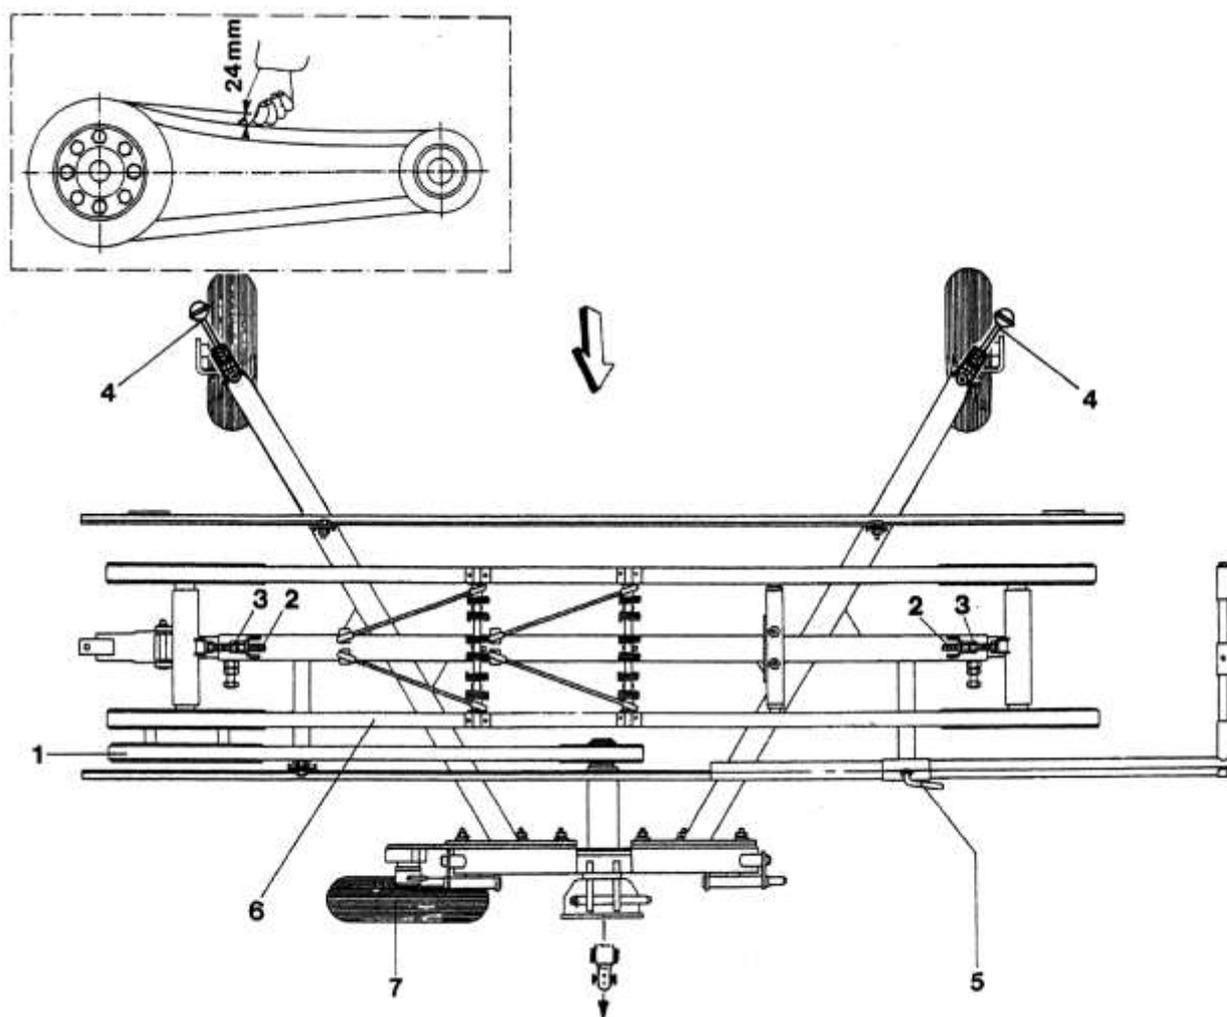
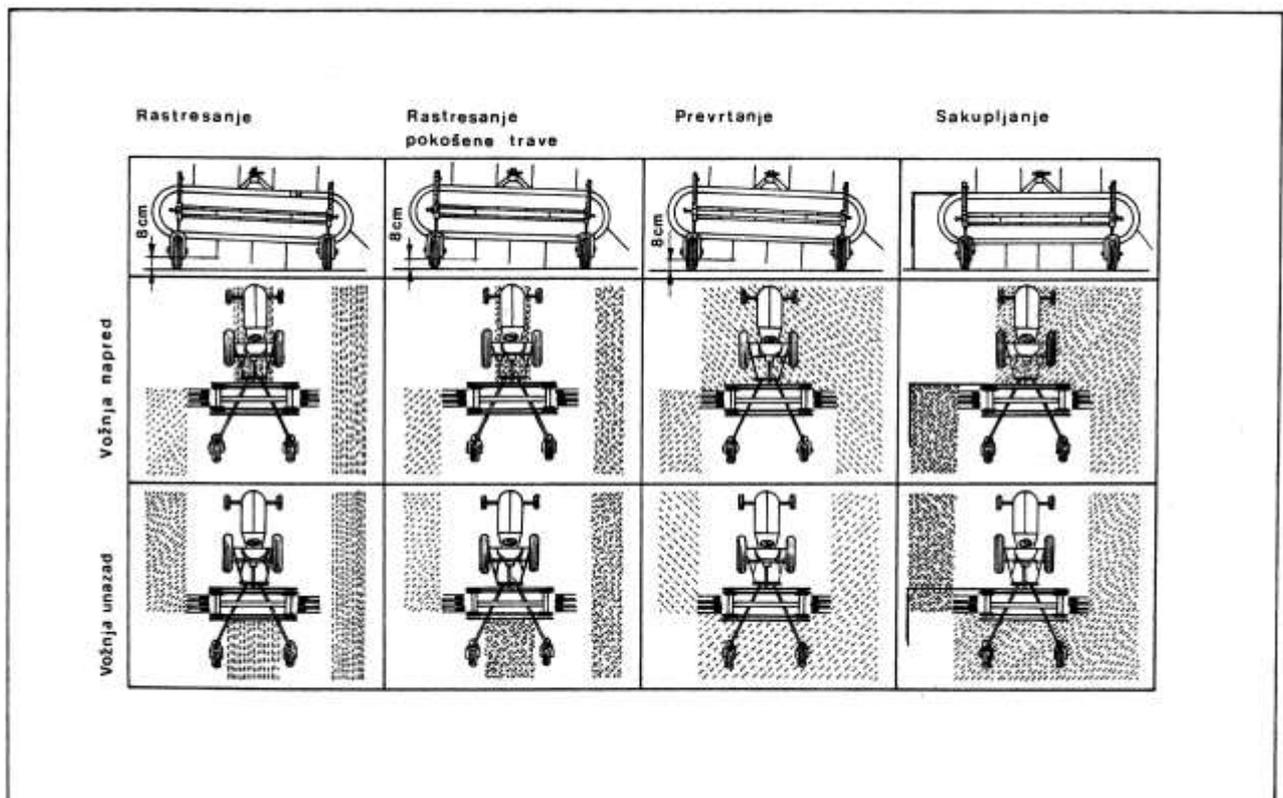

Figure 2 Belt hay rake - tightening belts
Figure 5. working height regulation
Prior to initiation of work, one needs to check the tension of the drive belt (fig. 2 pos. 1), which should have a deflection of 24 mm when a force of 100 N (10daN) is applied. Belts bearing the working elements should have a deflection of 40 mm when applying force of 150 N (15 daN).
First, setup the tension of the drive belt (Fig. 2, Pos. 1) through a screw with a counter-nut, on the right side of the belt rake (Fig. 2, Pos. 2). When deflection of the belt is 24 mm, use counter-nut to secure the screw against unscrewing (Fig. 2, Pos. 3).
Setting-up of the belts (Fig. 2, Pos. 6) bearing the working elements at 40 mm of deflection is performed by a screw in a similar manner as the previous setting-up, by means of screw on the left side (Fig. 2, Pos. 2 and 3).
When it comes to the collecting of hay, the height of the collectors is set up by operating the lever on a wheel support (Fig. 2, Pos. 4). This is set up so that both wheels are at the same height. When working on collection of hay one should set up the belt on the left side using the handle (Fig. 2, Pos. 5). This set-up is shown in Figure 5.
For raking, spreading and turning of the mowed grass, the left wheel must be adjusted with the lever on the wheel support so that the collecting element on the right side of the belt rake viewed in the driving direction is at a height of about 8 cm. For these working operations it is necessary to remove the belt, as schematically shown in Figure 5.
Before you start work with the belt hay rake, adjust the belt rake to the height required by the type of work (Fig. 5). The easiest way to adjust the height is as follows:
Lower the belt rake so that the collecting elements on the right side touch the flat area and on the left side they should be lifted for about 8 cm from the ground. Work speed is up to 8 km/h (see Fig. 5).
Lower the belt hay rake connected to the tractor levers to the ground. Lower it in that position so that all the collecting springs touch the grass and collect it. Shape the swaths with the belt which can be regulated (see Fig. 5).